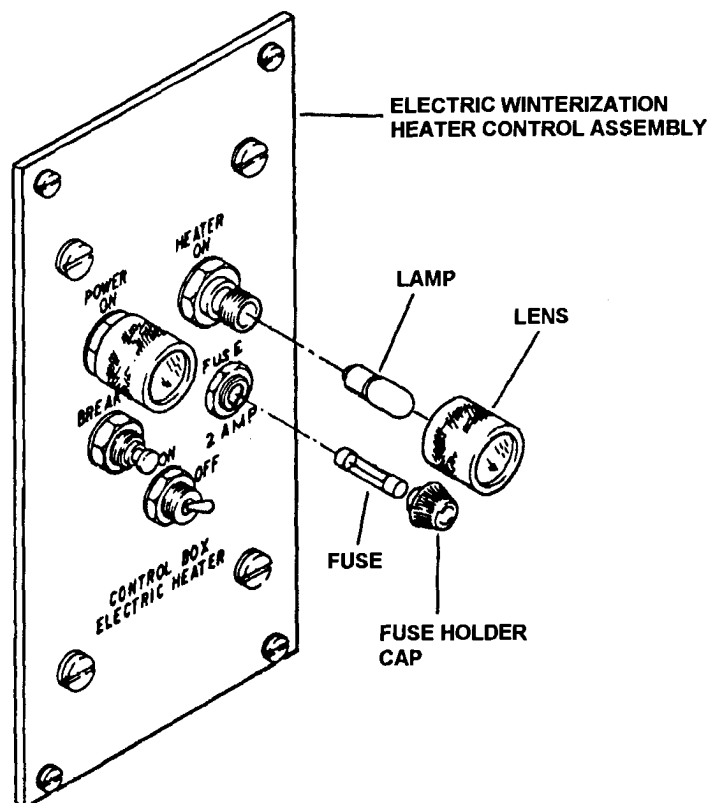

Figure 5-6. Electric Winterization it Control Assembly Indicator Lamp Fuse Replacement
- (1) Inspection. Inspect indicator lights (Figure 5-6) for cracked or broken lens, corrosion, and other damage.
- (2) Testing.
- (a) Close circuit breaker (Figure 5-6) to apply power to control assembly.
- (3) Lamp Replacement.
- (a) Unscrew lens (Figure 5-6).
- (1) Remove fuse holder cap (Figure 5-6).
- (2) Withdraw fuse from fuse holder.
- (3) Clean fuse with a clean, lint-free cloth lightly moistened with an approved solvent.
- (4) Visually inspect fuse for cracks or broken glass, corrosion, and melted conductor.
- (5) Use an ohmmeter, check fuse for continuity.
- (6) Replace fuse if unserviceable.
- (7) Insert fuse into fuse holder and install fuse holder cap.